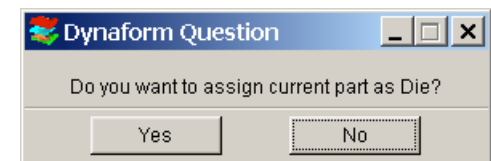

Figure 2.5
- Click **Yes** to assign the current part as Die (see Figure 2.5)